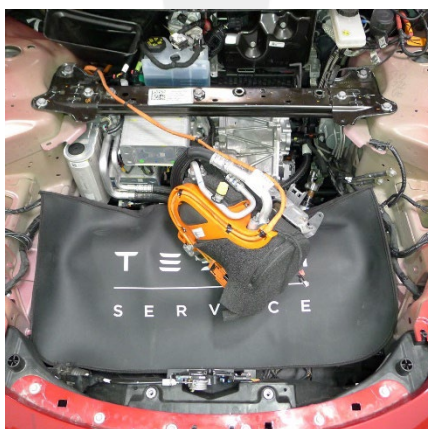

Figure 12
14. Carefully set the compressor and bracket onto the reinforcement beam (Figure 12).